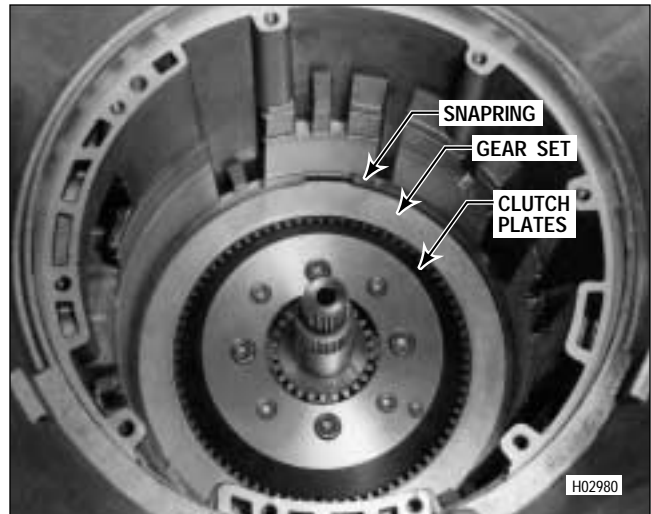

Figure 7-9. Second Clutch Snapping Installed
(4) Install the 0.155–0.157 inch (3.94–3.99 mm) thick green snapping that retains the second clutch plates (Figure 7-9). The snapping gap must be located at the 12 o'clock position (at the top of the transmission housing), and must be fully seated in its groove.